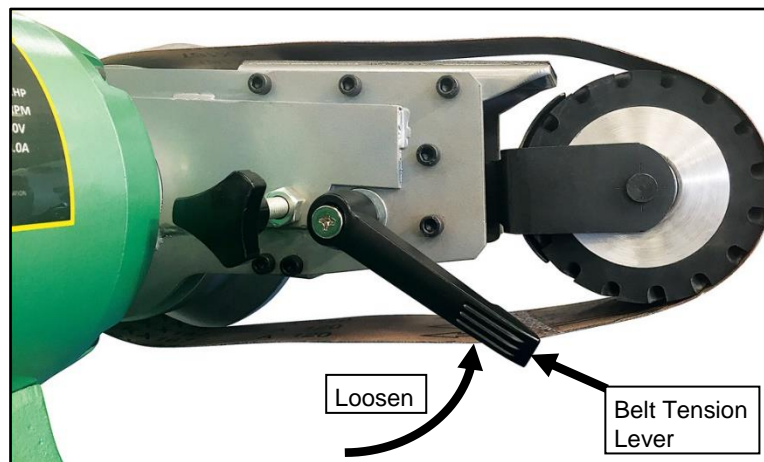

Figure 1 – Blade Tension Lever in Loosened Position
2. To remove belt turn the belt tension lever upwards until the tension of the belt is loose. (anti-clockwise direction whilst facing lever) Refer Figure 1.